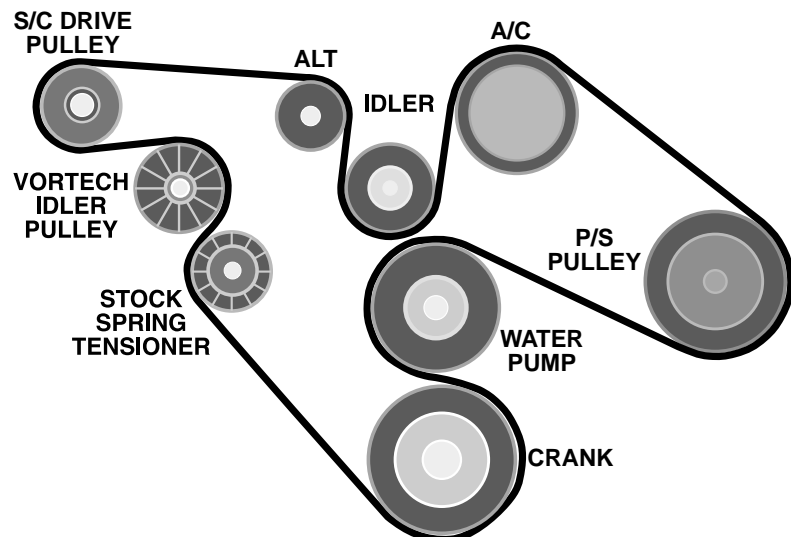

Figure: 8-a
- B. Route the belt around the outside of the supercharger drive pulley then around the inside of the idler (see *Figure 8-a*).